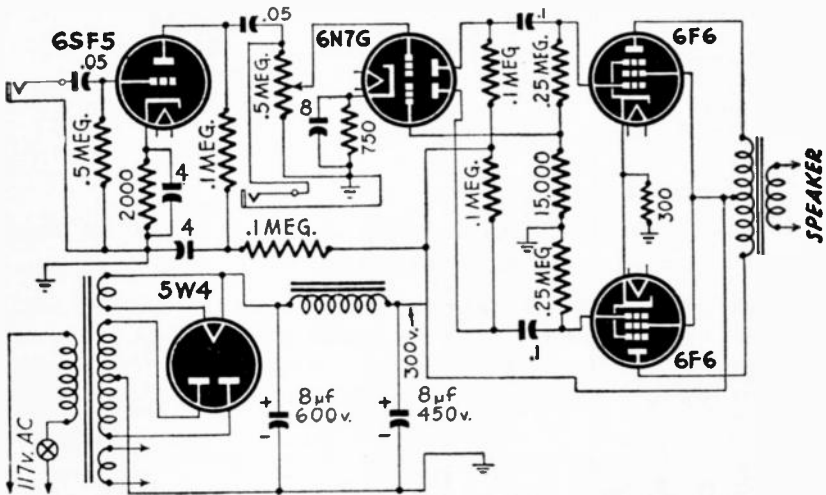

Fig. 407
A. Since an amplifier with a 6N7 and two 6F6's does not always give enough gain, even for phonographs, we show added to it an input stage, which you may add if you like. With the added tube, the amplifier may be used with microphone as well as with phonograph or radio. (See Fig. 407).